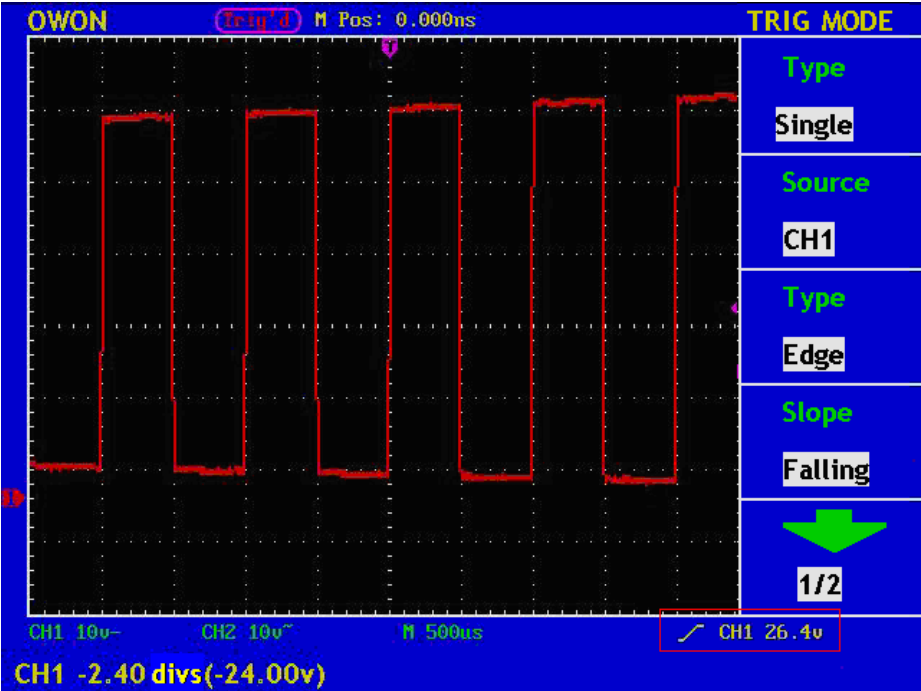

Fig.36 Wave Form Triggered on the Rising Edge
- 7、Press the **F3** menu selection button choose **DC** for Coupling. The display in the screen is as Fig.36.